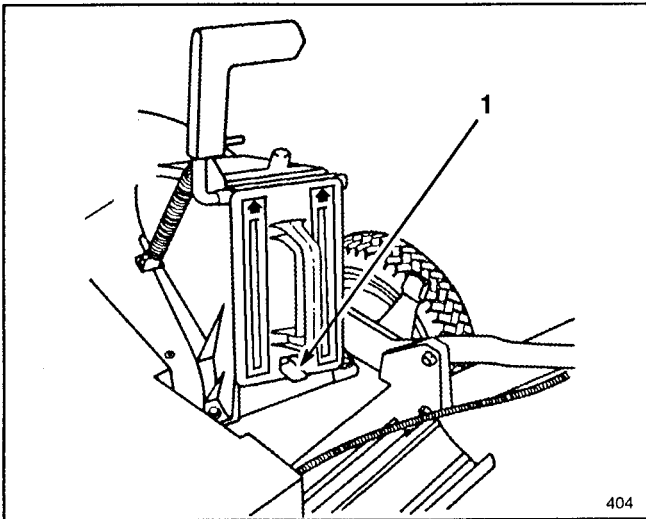

Figure 12
3. Push the plug all the way in until the spring clip on the bottom of the plug clicks into place, locking the plug securely into the discharge tunnel (Fig. 12). Release the discharge door handle to lock the top of the plug.